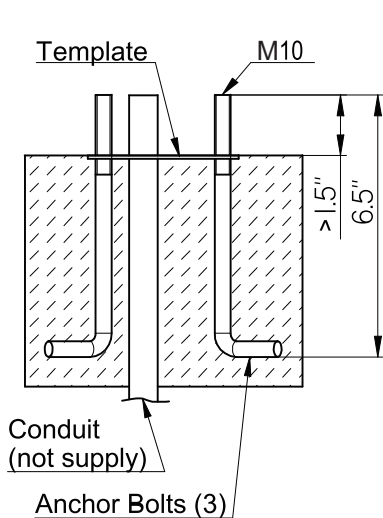
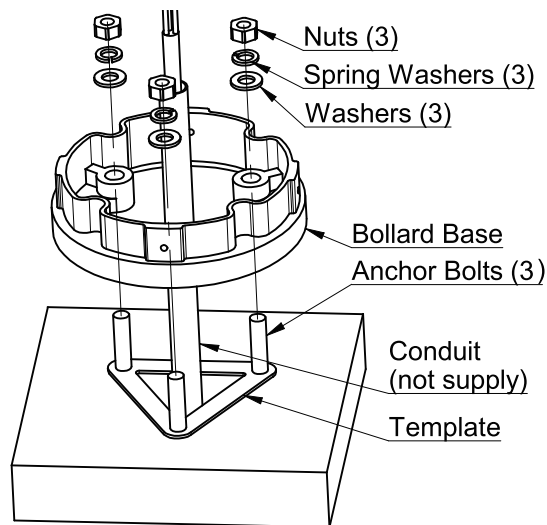

Figure 2
Figure 3
2. Install Anchor Bolts (3) with Template (1) (order separately or customer supplied) into concrete, having at least 1.5" protruding from template with threads free and clear of debris and dirt. See Figure 2.
4. Loosen the Set Screw (3) with an L-type Wrench (supplied), and remove the Bollard Base of the Bollard.
5. Place the Bollard Base over Anchor Bolts (3) and tighten all the Nuts and Washers (order separately or customer supplied). See Figure 3.